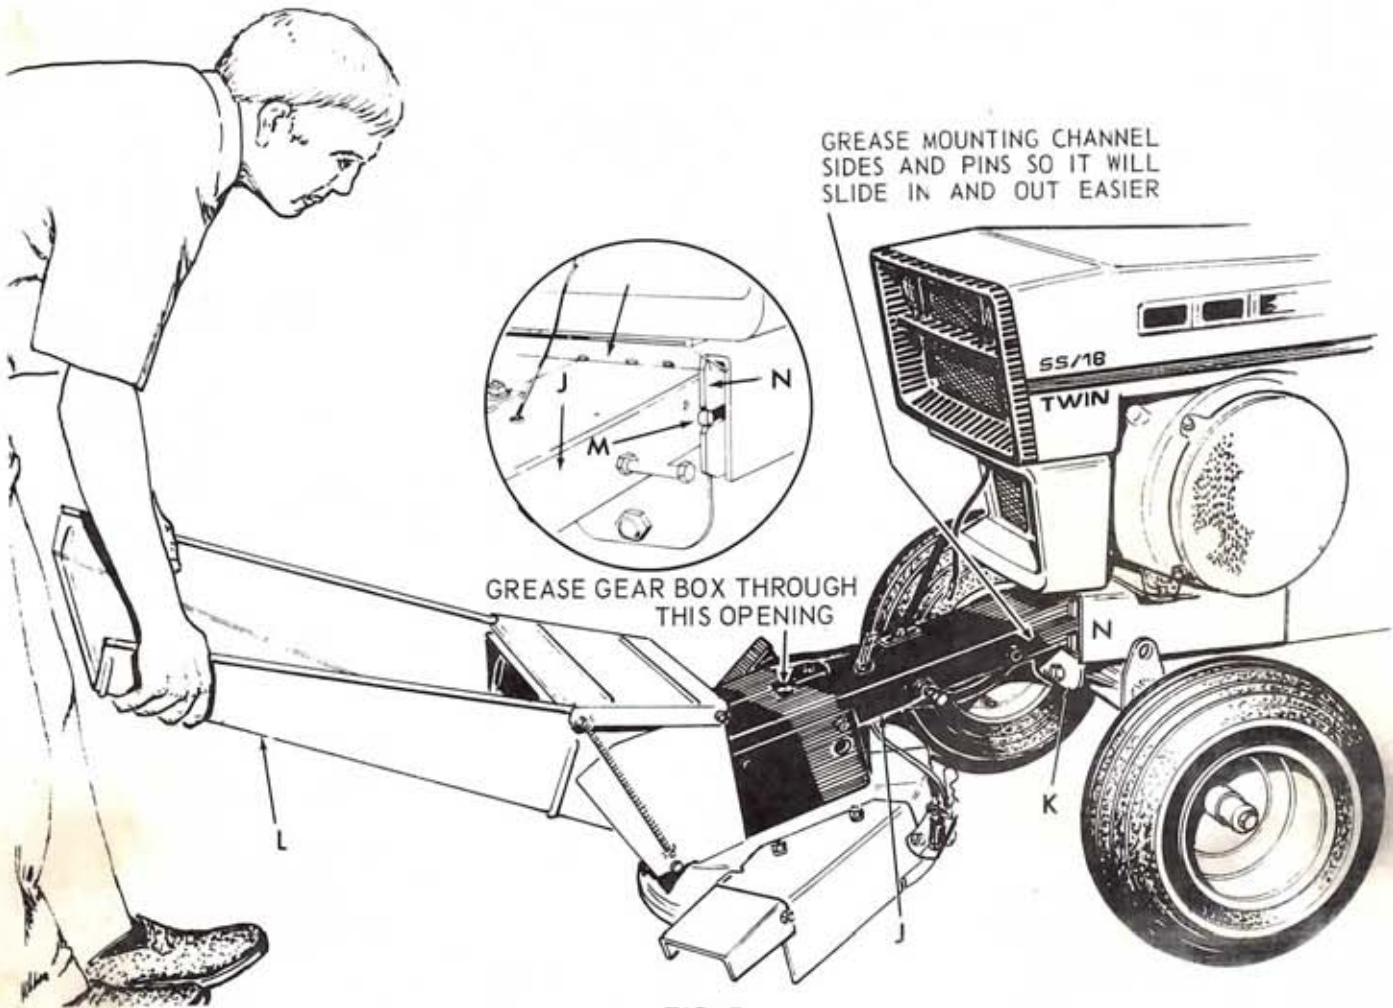

FIG. 7
6. Lift up on wide end of ramp until notches in sides of ramp lock onto deflector pivot, see Fig. 7.
4. Refer to Fig. 7. Lift rear end of mounting channel (J) and position it on top of front axle bracket (K). Lift up on front end of ramp (L) and slide channel (J) toward tractor. Pins (M) on mounting channel (J) must enter slots in tractor frame (N).
Lubricate gear box once a season. To grease, place nozzle of grease gun through hole in top of front end of support channel (see Fig. 7). Pump ten (10) shots of moly E.P. lithium grease through grease fitting into gear box.